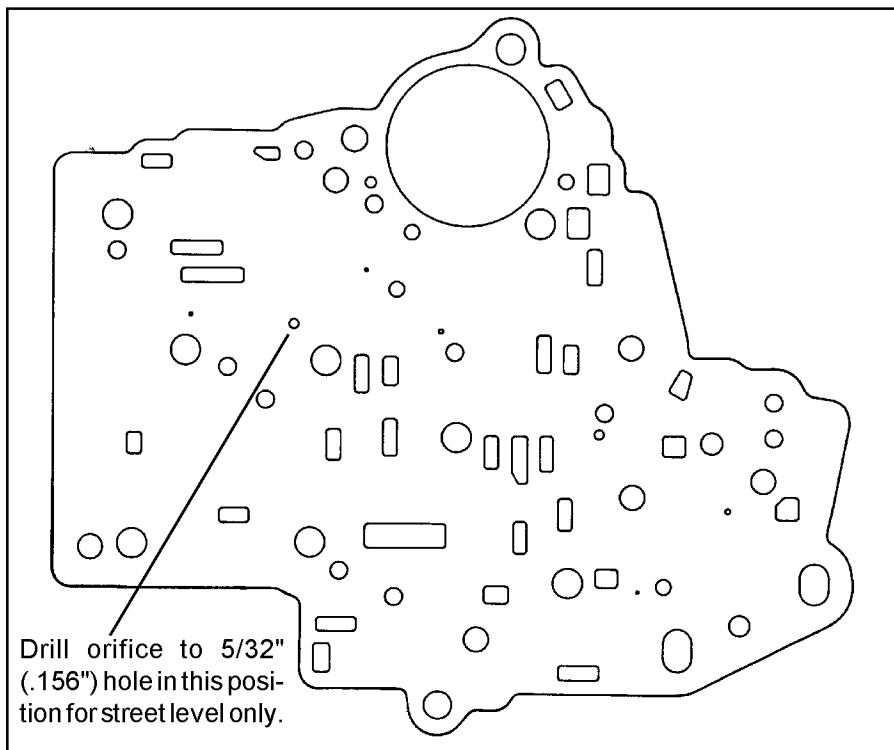

Figure 12
STEP 8. Street level only: Drill the B&M Separator Plate orifice indicated in Figure 12 using the 5/32" (.156") drill supplied in kit.